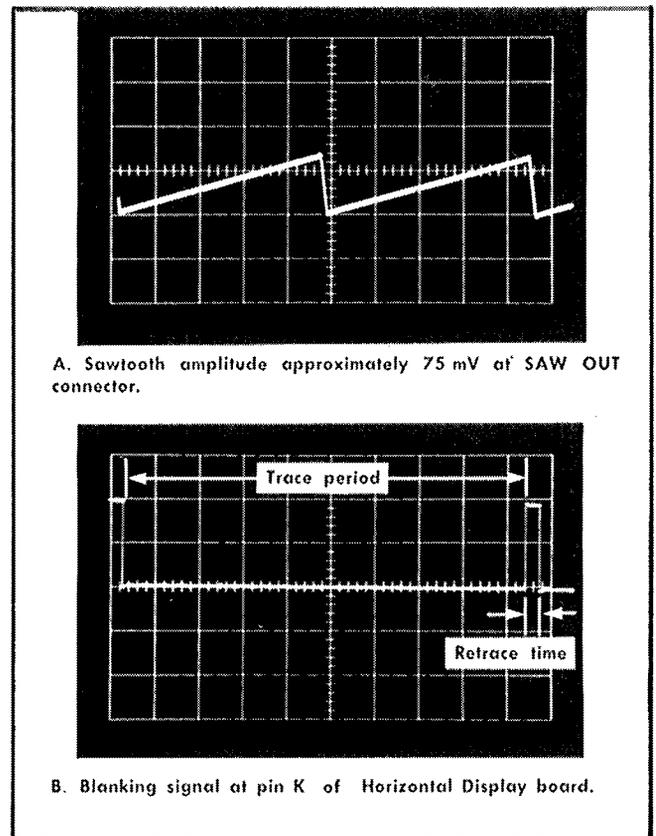

Fig. 6-16. Sawtooth waveform and blanking waveform.
- Check unblanking waveform. Amplitude should measure between 8.0 V and 9.0 V, typically 9.0 V (see Fig. 6-16).